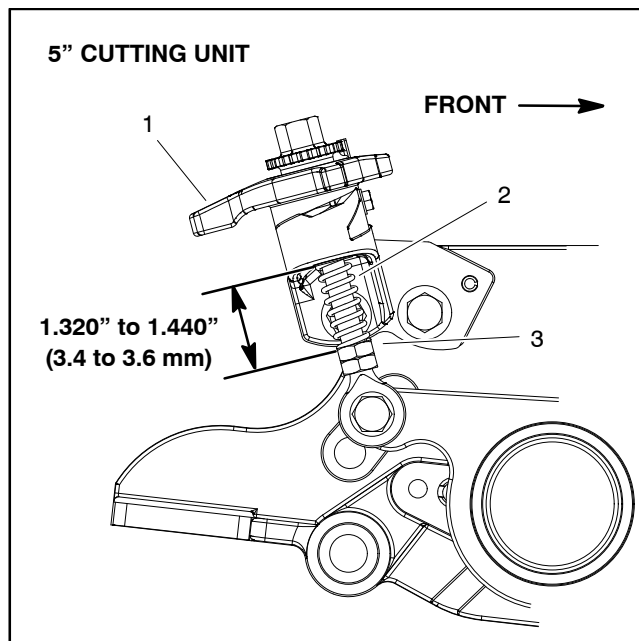
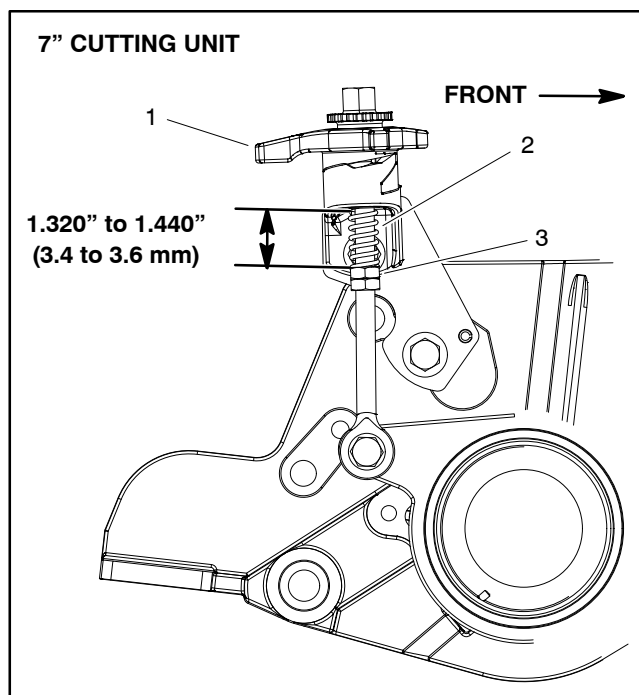

Figure 21
Figure 22
A. If bushing (item 10) was removed from upper ramp, press new bushing into housing fully to the shoulder in the bore.
B. If jam nuts (item 4) were removed from ball joint rod, apply antiseize lubricant to threads of rod where jam nuts will be positioned. Install jam nuts so that distance from top of ball joint rod to bottom of lower nut is from **3.190" to 3.310" (8.1 to 8.4 cm)**.
C. Apply antiseize lubricant to threads of ball joint rod before installing groomer adjuster (item 12) onto rod.
D. If detent spring (item 13) was removed, secure detent spring to upper ramp with washer head screw. Torque screw from **30 to 40 in-lb (3.4 to 4.5 N-m)**.
4. After groomer height has been adjusted, adjust location of jam nuts so compression spring length is from **1.320" to 1.440" (3.4 to 3.6 mm)** when the groomer handle is in the disengaged position (handle toward rear of cutting unit) (shown in Fig. 21 For 5" cutting unit and Fig. 22 For 7" cutting unit).